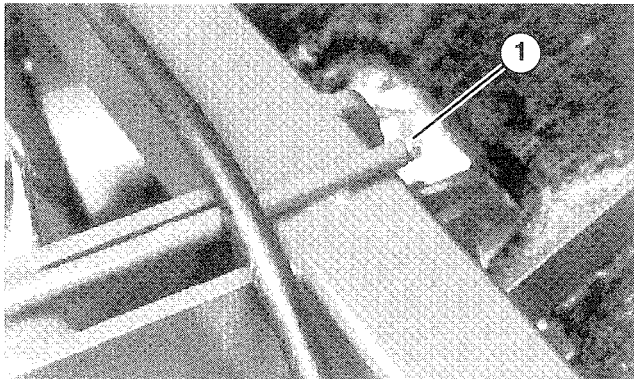

**Figure 13**
6. Secure tie brackets to hitch links with tie plates, washers and nuts (Fig. 13).